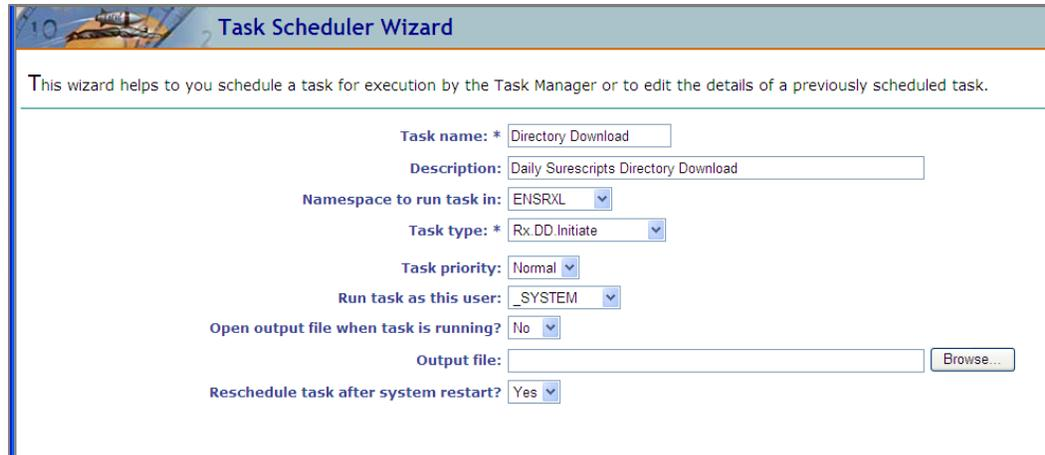

Figure 5-9: Task Scheduler Wizard dialog
2. Select **Schedule New Task**. Figure 5-9 shows the **Task Scheduler Wizard** dialog.